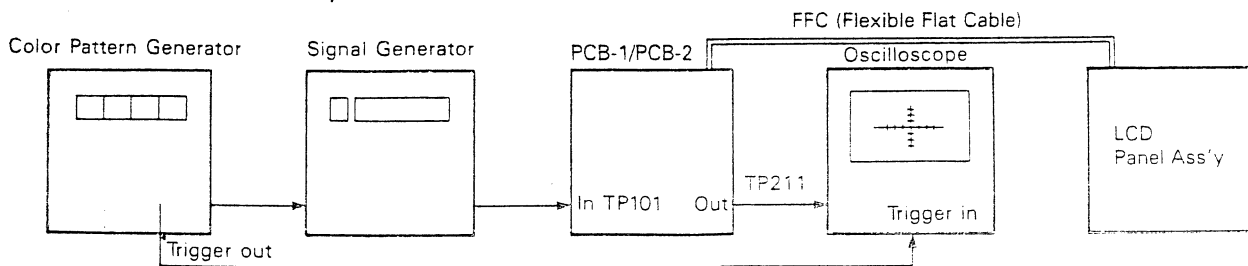

Fig. 18
- 2 Connect a DC power supply (+ 7.5 V) to J401. Connect the equipment as shown in Fig.18.